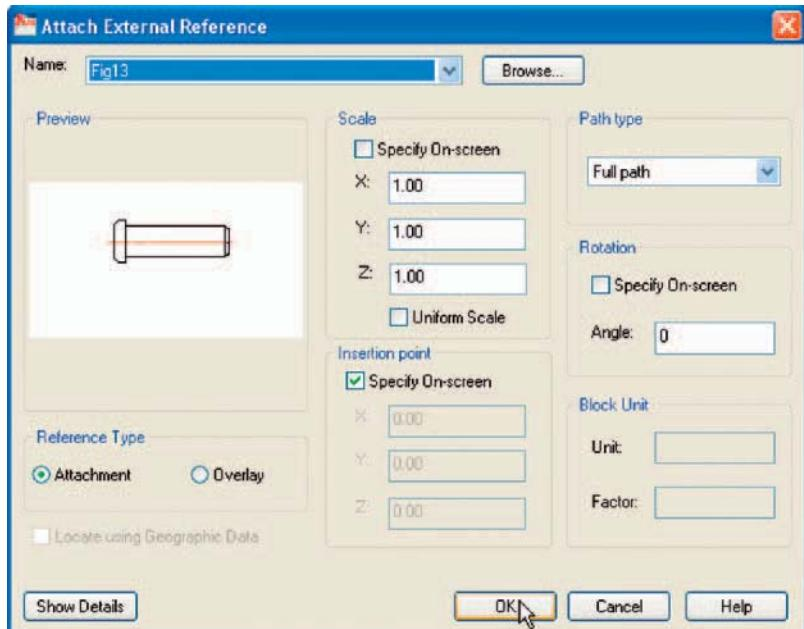

Fig. 10.16 The Attach External Reference dialog
4. Click its Attach button and select Attach DWG... from the pop-up list which appears when a *left-click* is held on the button. Select the drawing of a spindle (Fig13.dwg) from the Select Reference file dialog which appears followed by a *click* on the dialog's Open button. This brings up the Attach External Reference dialog (Fig. 10.16) showing Fig13 in its Name field. Click the dialog's OK button.